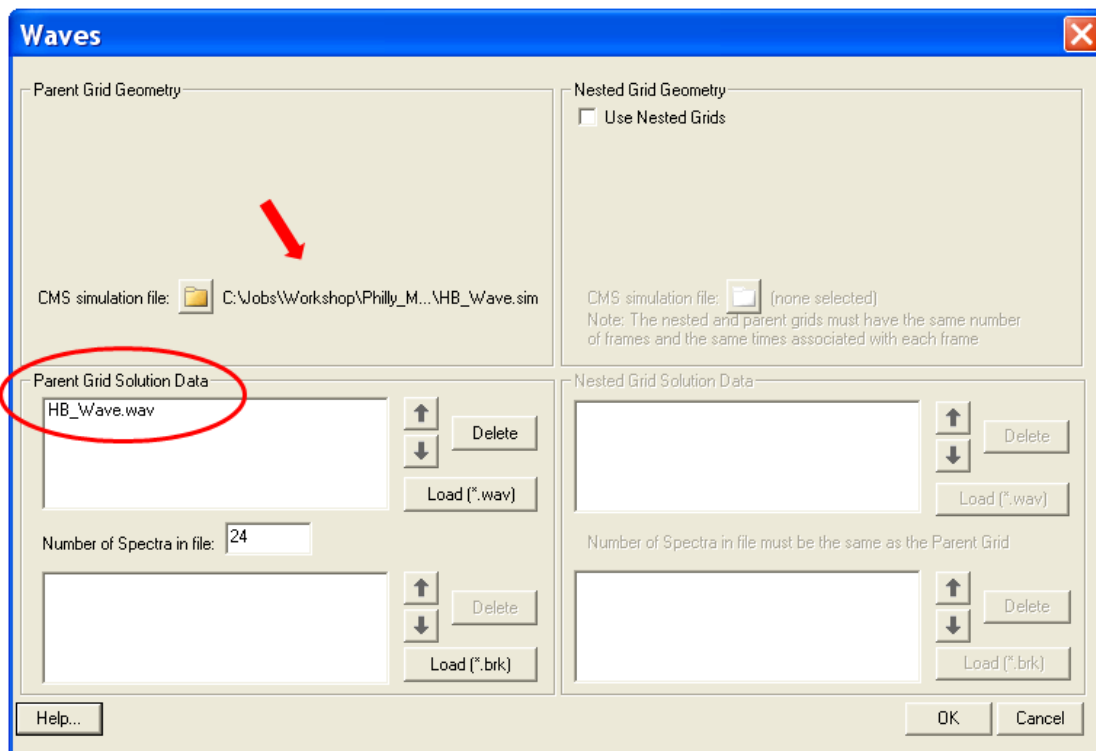

Figure 11. Specifications of wave input.
8. *Waves and breaking* - Select *CMS-Wave* under the *Options* and click *Options...* under the *Filename* to obtain wave input for PTM (Figure 11).